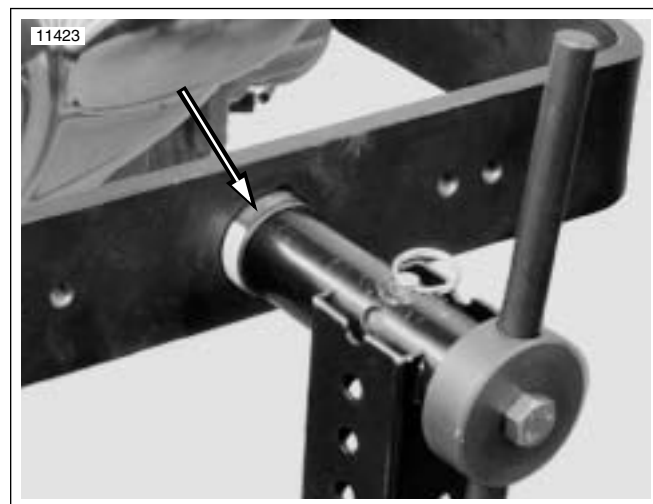

Figure 3-9. Spacer Ring
4. See Figure 3-9. If mounting to ROLLING ENGINE STAND (HD-43646-A), slide spacer ring from CRADLE LOCKING NUT AND SPACER RING (HD-42310-100) on cradle shaft before mounting to stand.